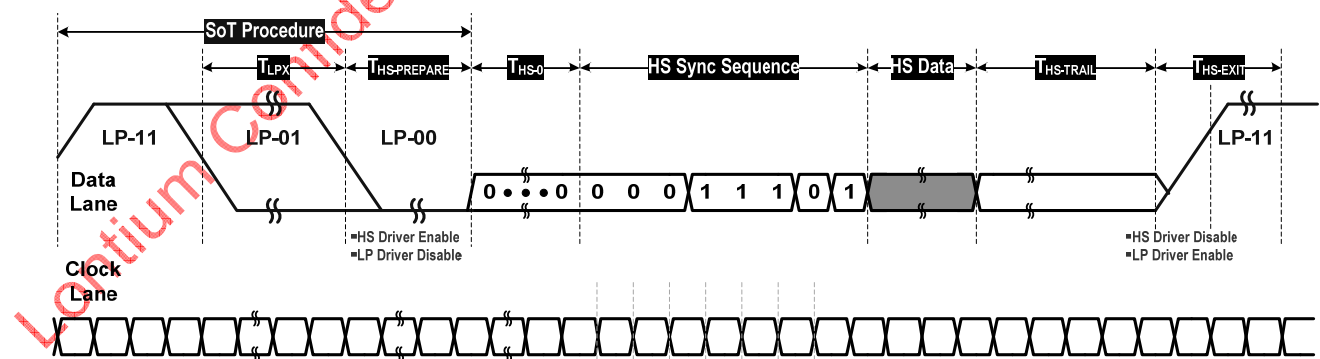

Figure 7.2.1.1 Switching Timing Between Low Power Mode and High Speed Mode in Video Mode
Figure 7.2.1.1 shows the timing relation when MIPI receiver switches between Low-Power (LP) Mode and High-Speed Data Transmission (HSDP) Mode. LT8912B only supports video mode data transmission.